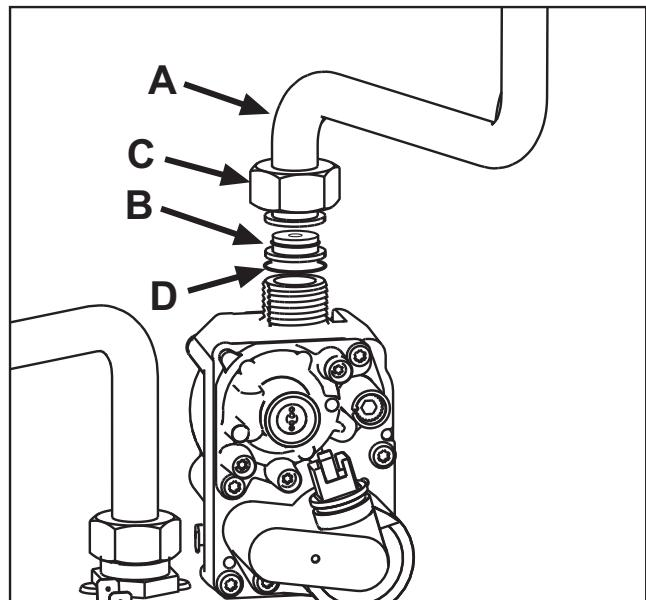

fig. 23
3. Unscrew the ring **C** and remove the gas pipe **A** from the gas valve (see fig. 23);
4. Replace the nozzle **B** inserted in the gas pipe with that contained in the conversion kit, interposing seal **D** (see fig. 23).